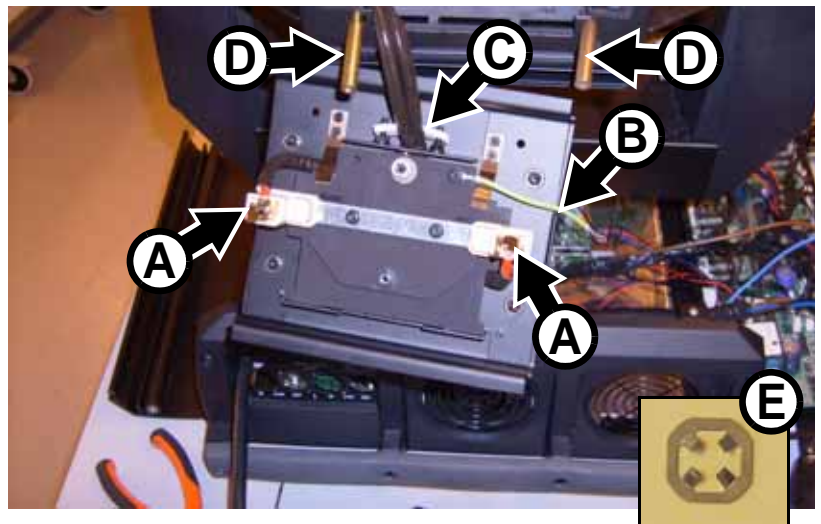

Figure 59
64. See Figure 59. Clamp the lamp leads into the lampholder terminals **A**. Fasten the lampholder ground lead **B** to the head re-using the original screw in the same hole as the original lead. Pull the lamp leads towards the ignitor to eliminate any slack in the lampholder housing, but make sure they are not kinked or under tension. Clamp the lamp leads in place by applying the push-on locking washer **E** supplied with the Upgrade Kit (P/N 08074402) on the lamp lead clamp **C**. Install the lampholder/rear cover assembly on its mounting pillars **D** in the back of the head, re-using the original screws. Apply Loctite 243 on their threads before tightening.